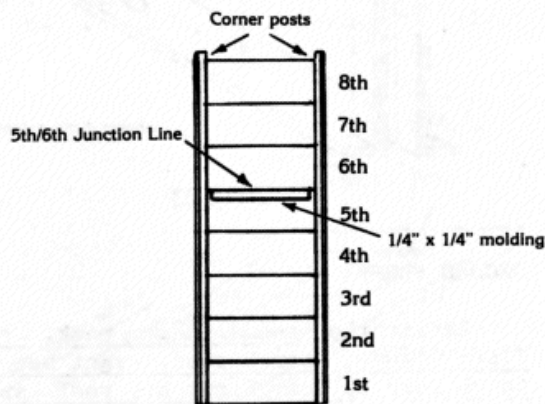

FIGURE 25
1. Cut 1/4"x1/4" molding to fit and glue in place. Glue the top edge of the molding flush with the junction line of the fifth and sixth siding boards all around the inside of the walls (see Figure 25) except on the left side wall, glue a 7" piece to the front part and a 1 1/2" piece to the back part of the wall leaving approximately a six inch gap between them. Also, glue the molding around the outside of the walls where the porch roof will set.